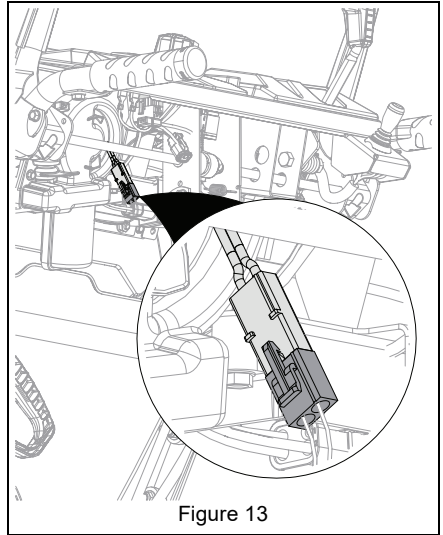

Figure 13
2. Ensure the EFI battery located under the control panel is connected and fully charged. See Figure 13.